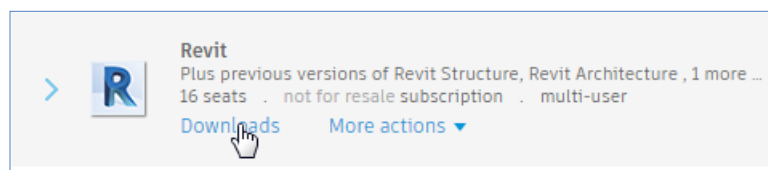

FIGURE 29: DOWNLOADING THE ADD-IN
2. Scroll down to Revit and click on Downloads, as shown in Figure 29.